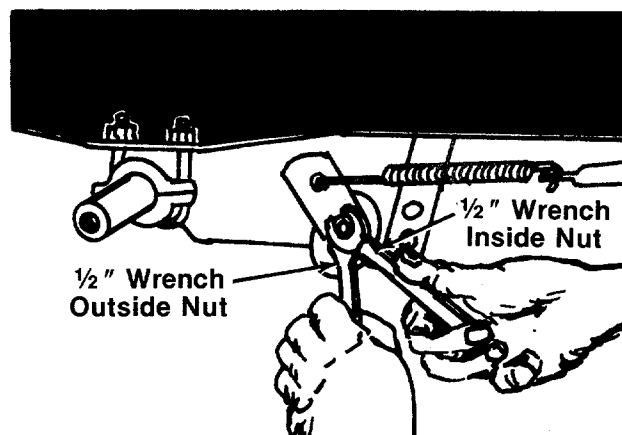

FIGURE 20.
3. Tighten the outside nut against the inside nut, using two 1/2" wrenches. See figure 20.